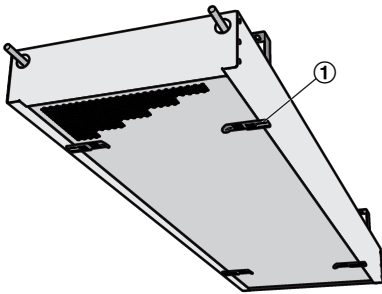

Fig. 5: Transport securing devices
- Ensure that the transport securing devices for the perforated metal facing have been removed ( Fig. 5/1)